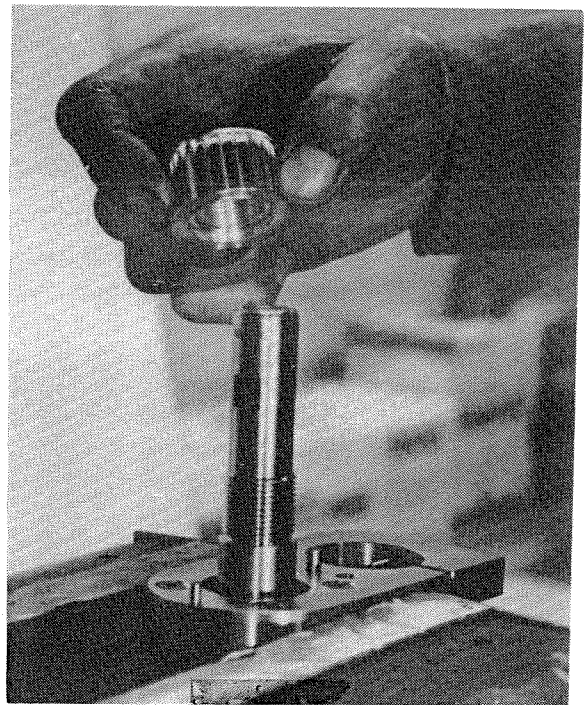

FIGURE 5-19
- F. REMOVE ENDLESS TIMING BELT, (ITEM #13), RETAINING RING, (#58), DRIVEN SPROCKET, (ITEM #9), AND 605 WOODRUFF KEY. SEE FIGURE 5-19.